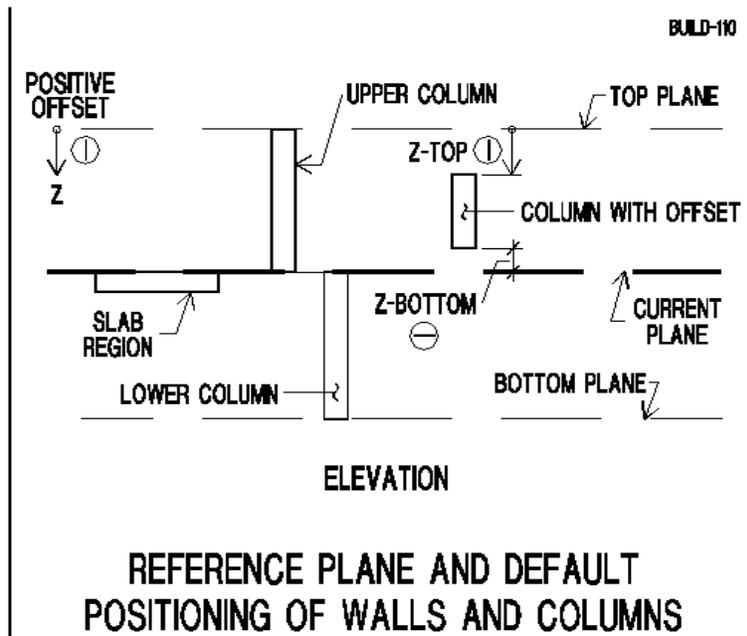

Figure 4.1-2
The supports below the floor system are defined with reference to the current plane and bottom plane (**Fig. 4.1-2**). Similarly, the supports above the floor system, such as columns, walls and ramps, are defined with respect to the current plane and the top plane. The top and bottom planes are used by the program to determine the height of each of the supports. For example, the length of an upper column is defined by the position of its top and bottom ends. The position of the bottom end is defined with respect to the bottom, and the position of the top end with respect to the top plane. The default of the program is that each wall or column support extends between the current plane and either the top or bottom plane. There are two conditions when you may wish to change the end position of a structural component along the vertical plane. The *Offset* and *Establish Component Connectivity* functions do this for you.
- Offset.** For components that do not extend over the entire length between two adjacent reference planes, such as the short upper column shown in **Fig. 4.1-2**, the offset (Z distance) from the associated reference plane is used to adjust the end of the member. Create the structural component, then open its property box and change its offset to the position of your choice.